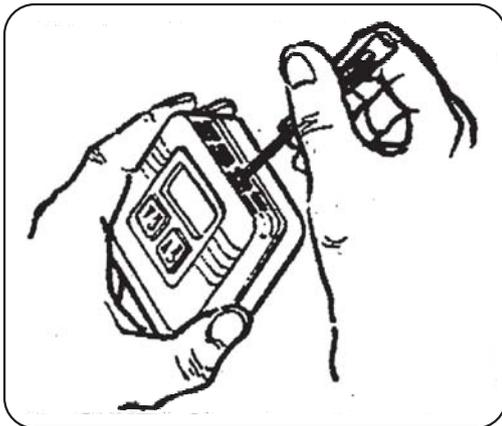

FIG. 2
3. Release the front cover by pressing a tab on the top of the front cover with a screwdriver (see figure 2). Remove the front cover with your hand holding both sides of the cover (see figure 3).